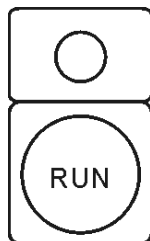

Figure 15. Run Button
1. Press the **RUN** button (Figure 15) on the controller to start the engine.